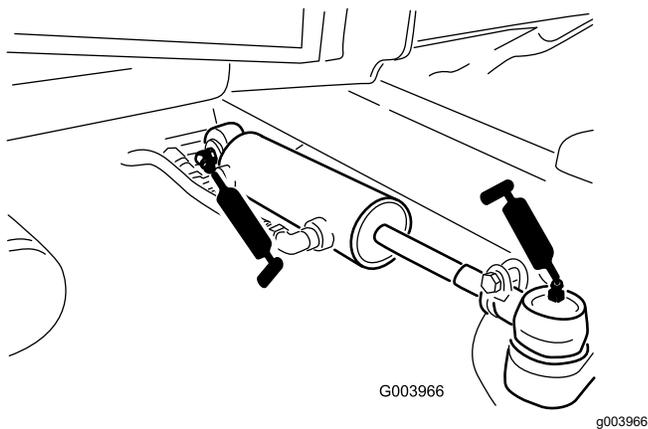

Figure 76
- Steering-cylinder ball joints (2) (Figure 76)